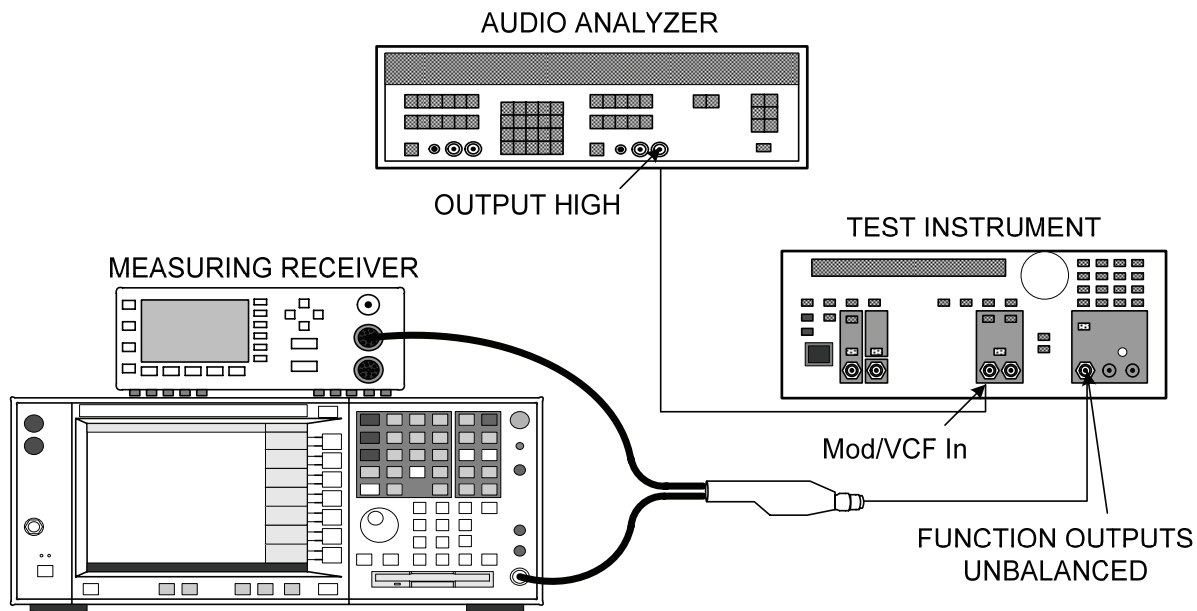

Figure 1. FM distortion - equipment hookup.
- (2) Connect equipment as shown in figure 1.